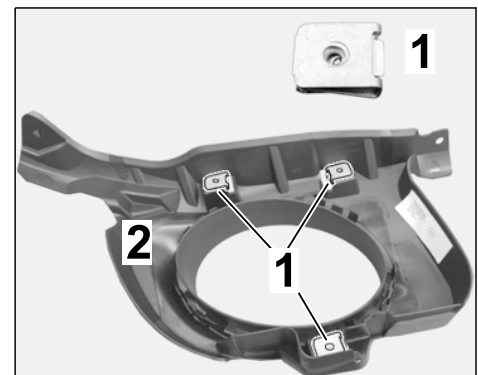

Figure 11
- 3.3.1 Install new clamping sleeve, St 4.8 x 22 x 18 (3 ea.) on exhaust pipe cover (left ⇒ *Figure 11* /right).